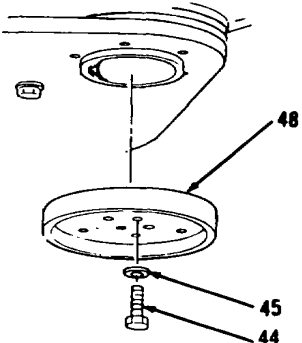

Figure 16-22.
- 15. Remove four bolts (44), lock-washers (45) and plate (48, Figure 16-22).